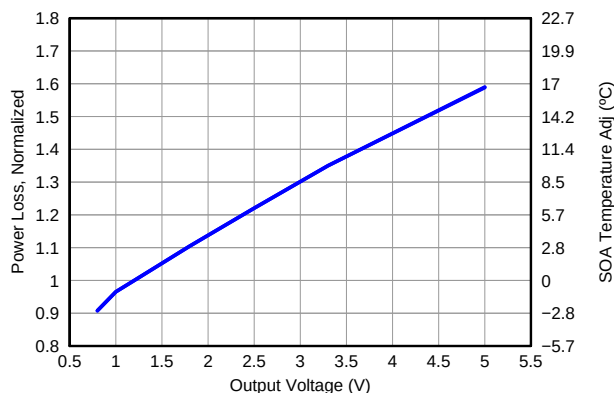

Figure 14. Normalized Power Loss vs Output Voltage
- Normalized Power Loss for output voltage ≈ 0.7 (Figure 14)
- SOA adjustment for output voltage $\approx -1.0^\circ C$ (Figure 14)